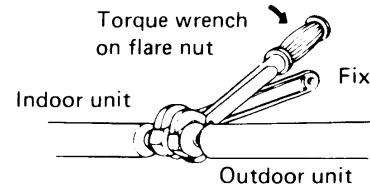

Fig. 27
2. Flare nut on large dia. tube should be torqued to 510~550 lbs. in. Flare nut small dia. tube should be torqued to 130~170 lbs. in. Fig. 27